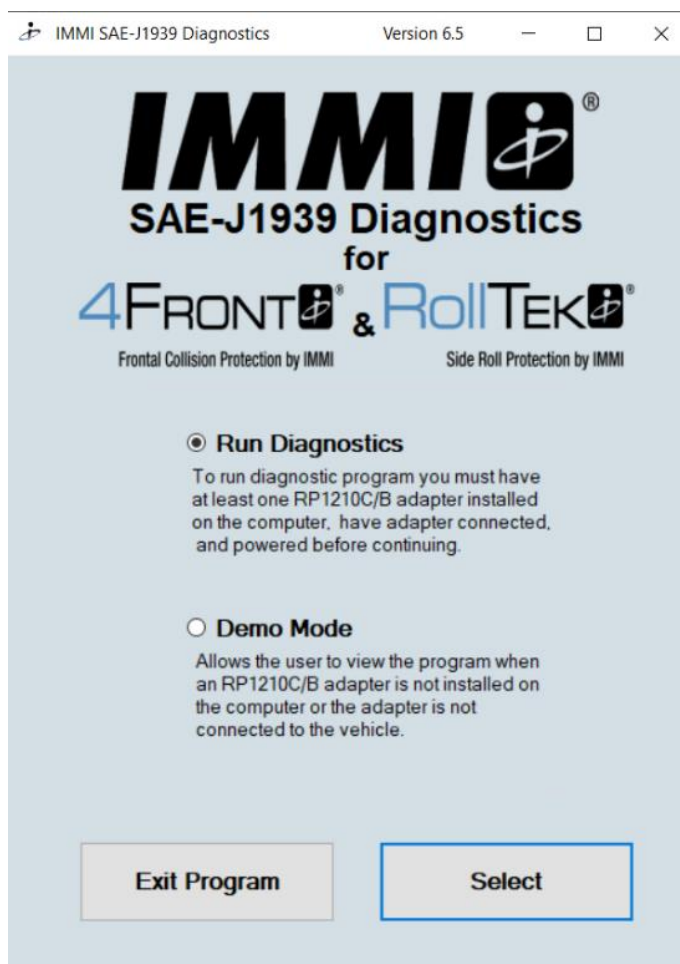

Figure 8.1
- 16) Open IMMI diagnostic software and select "Run Diagnostics". See Figure 8.1